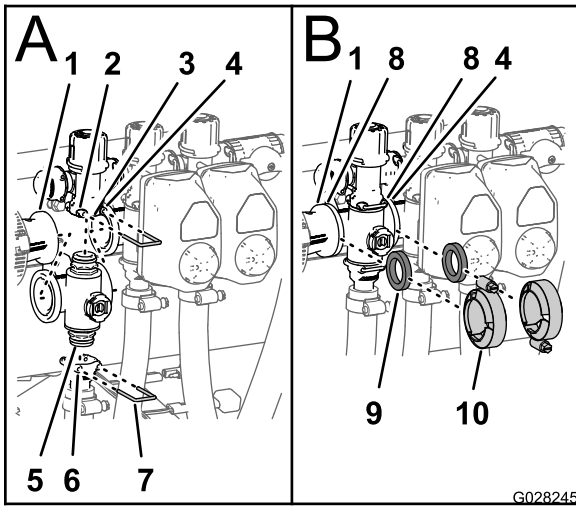

Figure 122
1. Insert the upper end-cap fitting of the manifold valve into the bypass fitting (Figure 122).
2. Secure the end-cap fitting to the bypass fitting by inserting a retainer into the socket of the bypass fitting (Figure 122).
3. Assemble the outlet fitting onto the lower end-cap fitting of the manifold valve (Figure 122).
4. Secure the end-cap fitting to the outlet fitting by inserting a retainer into the socket of the outlet fitting (Figure 122).
5. Align a gasket between the flanges of the reducer coupling and the section valve manifold (Figure 122).
6. Assemble the reducer coupling, gasket, and section valve manifold with a clamp, and tighten by hand (Figure 122).
7. If installing the 2 left most section valves, align a gasket between the flanges of the 2 adjacent section valve manifolds (Figure 122).
8. Assemble the 2 adjacent section valve manifolds and gasket with a clamp, and tighten by hand (Figure 122).